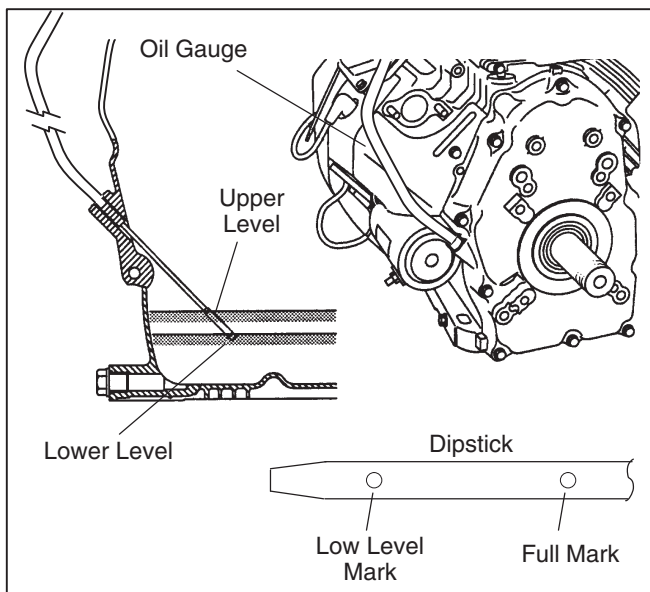

FIGURE 5-2. OIL LEVEL FILL
10. DO NOT FILL TO A LEVEL ABOVE THE FULL MARK ON THE DIPSTICK. Drain the excess oil if too much has been added. See Figure 5-2.